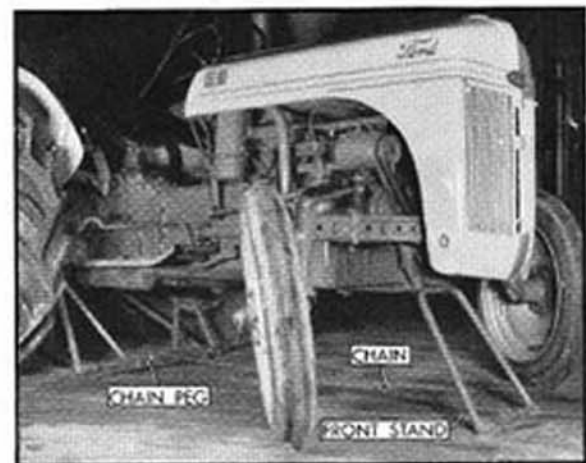

Figure 2
- Step 2. Place the front jack stand in position under the front engine support as shown in Figure 2.
- Step 3. Remove kinks, and pull the slack out of the chain and attach chain to peg at the center of the rear stand base cross bar by slipping a link of the chain over the peg. See Figure 2.